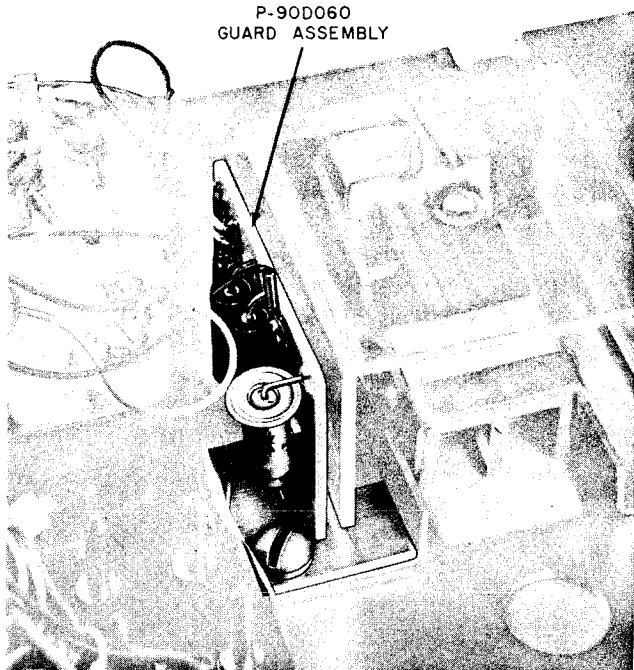

Fig. 7—Installed P-90D060 Guard Assembly
- #### (f) *Installation of P-90D060 Guard Assembly:* The P-90D060 polarity guard-surge protector assembly may be installed in sets equipped with either a 10- or 12-button TOUCH-TONE® dial (Fig. 7). Refer to appropriate connection section for connection information.